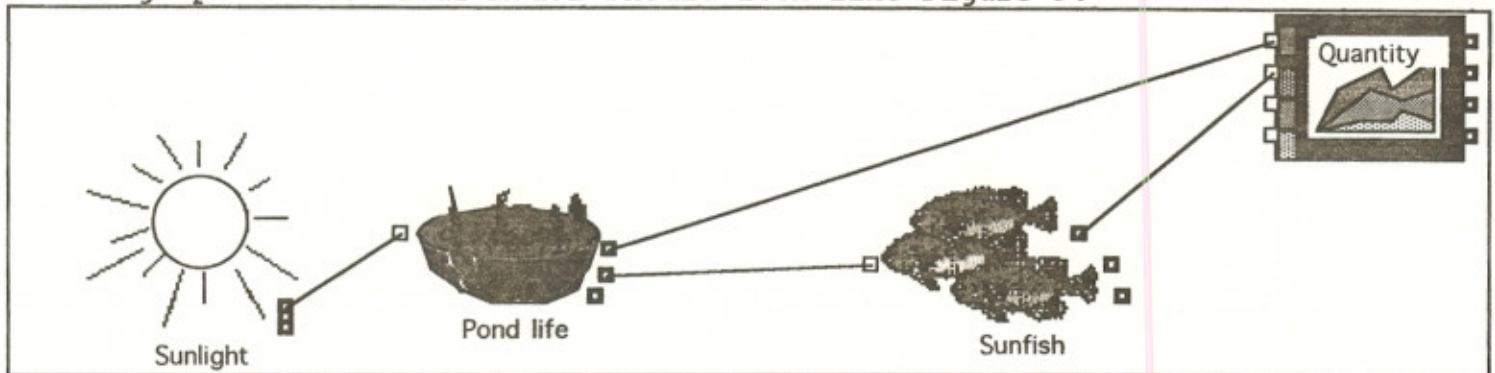

Figure 9. Picture icon ecosystem with sun, pond life and sunfish.
3. Attach an output connector of the **Sunfish** block to the second input connector on the Plotter, so that the changes in Sunfish biomass will be graphed too. Your model should look like Figure 9.